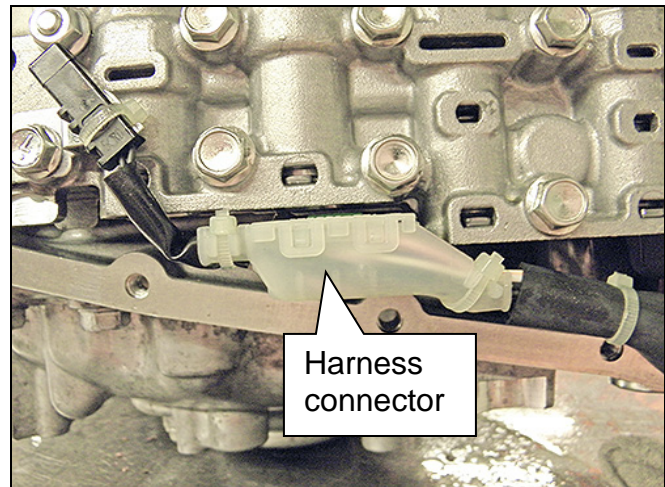

Figure 7
7. Connect the electrical harness connector (Figure 7).